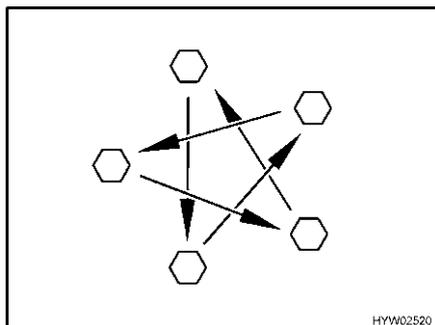

Fig. 215 Tighten the wheel nuts or wheel bolts cross-wise
- Check regularly that the wheel nuts or wheel bolts are firmly seated. Retighten the wheel nuts or wheel bolts of a changed wheel cross-wise (Fig. 215) after 50 km (30 miles). See section 13.5.2 for tightening torque.
- ▷ Tighten the wheel nuts or wheel bolts cross-wise (Fig. 215).